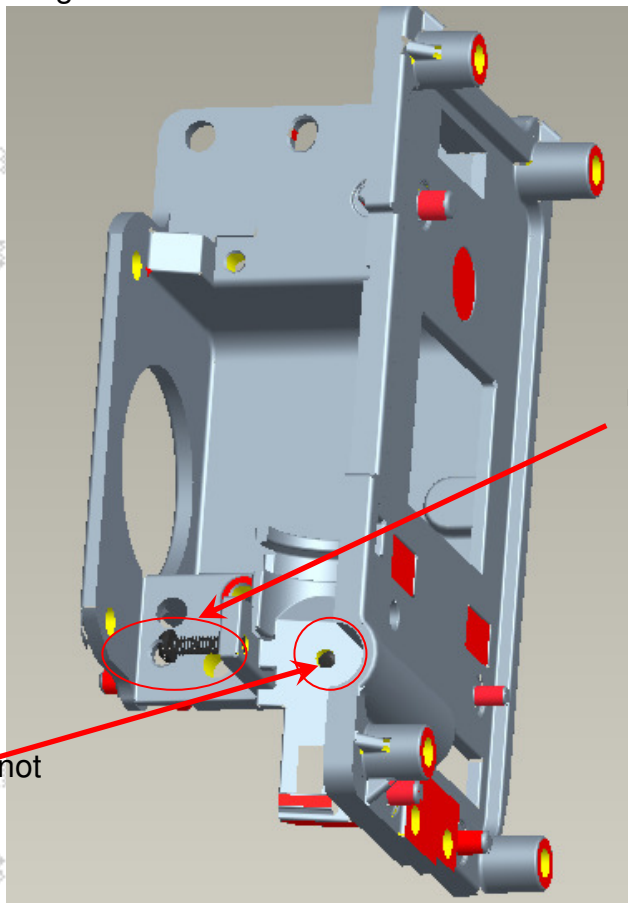

Fig. 1-6
(1) Pre-assembly 2 adjusting screws. Criteria shown as Fig.1-6.
(2) Alignment Sequence:
b. Refer to Fig. 1-6.
(3) For Overfill Re-adjustment: